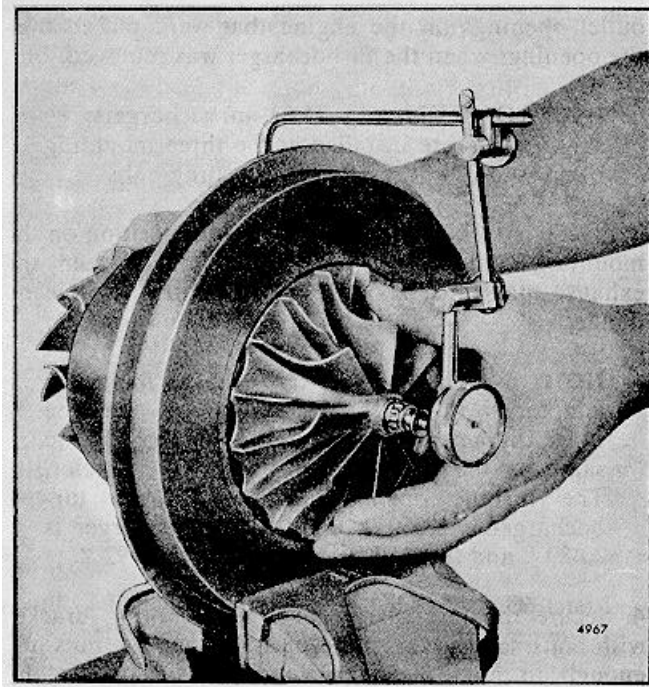

FIG. 11 - Checking Bearing Axial End Play
- Clamp the center housing assembly in a bench vise equipped with soft jaws as shown in Fig. 11.
- Fasten the dial indicator and magnetic base (J7872-2) to the center housing so that the indicator tip rests on the end of the rotating shaft on the compressor side (Fig. 11).
18. Position the turbine housing (6) as marked at disassembly against the center housing (27) and secure it in place.
- Secure the T18A40 turbine with four, clamps (5), four new lockplates (4) and eight bolts (3). Tighten the bolts to 100-130 **lb-in** (11-15 Nm) torque.
- Secure the TV71 and 81 turbine housing with the "V" band coupling (28). Tighten the toggle nut as follows: